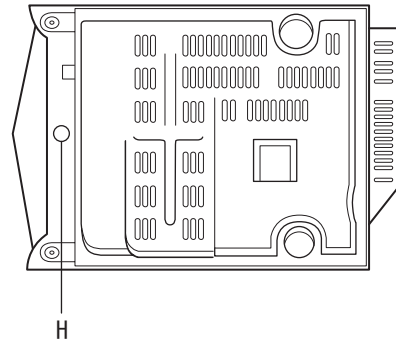

Fig.10
3.1.6 Removing the front panel assembly (See Fig.10 to 11)